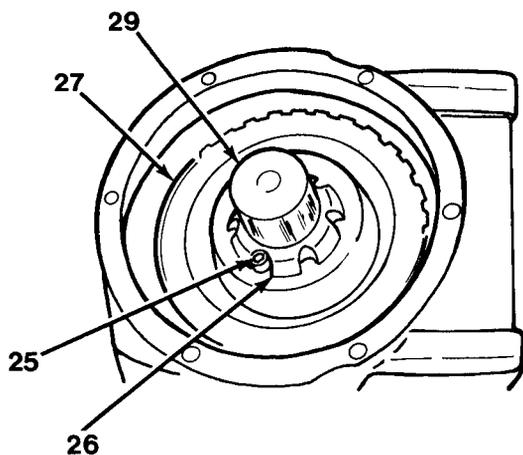

Figure 15-8
16. Remove capscrew (25) and nut (26, Figure 15-8).